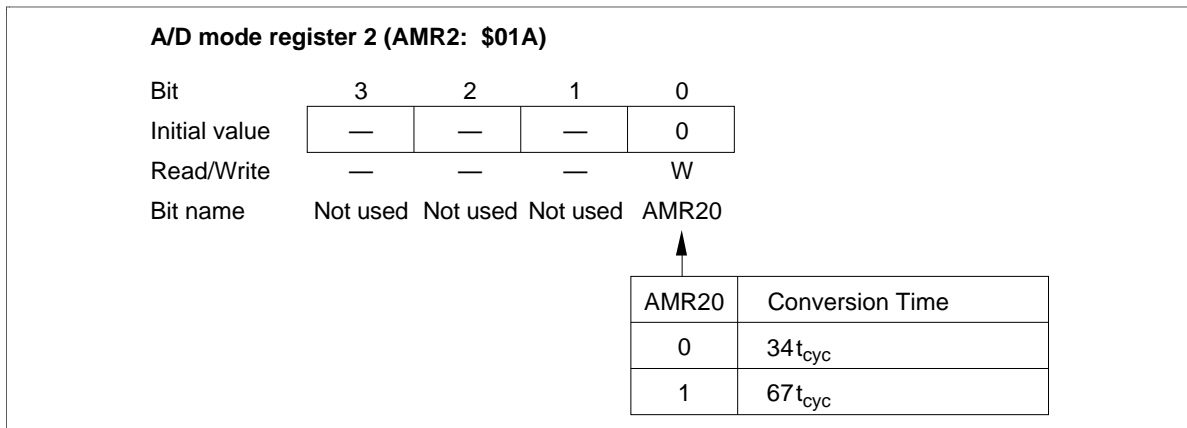

Figure 54 A/D Mode Register 2 (AMR2)
- A/D mode register 2 (AMR2: \$01A) is used to set the A/D conversion speed (figure 54).